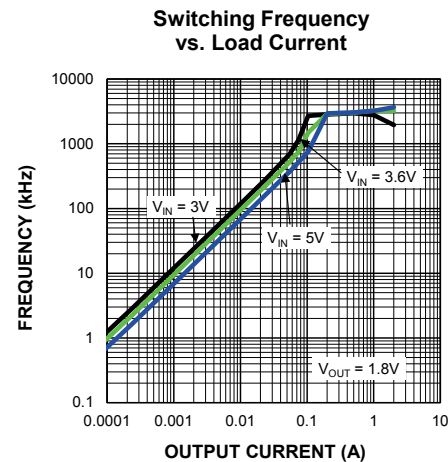

Figure 4. SW Frequency vs. Output Current
As shown in Equation 11, the load at which the MIC23450 transitions from HyperLight Load mode to PWM mode is a function of the input voltage (V_{IN}), output voltage (V_{OUT}), duty cycle (D), inductance (L) and frequency (f). As shown in Figure 4, as the Output Current increases, the switching frequency also increases until the MIC23450 goes from HyperLight Load mode to PWM mode at approximately 120mA. The MIC23450 will switch at a relatively constant frequency around 3MHz once the output current is over 120mA.